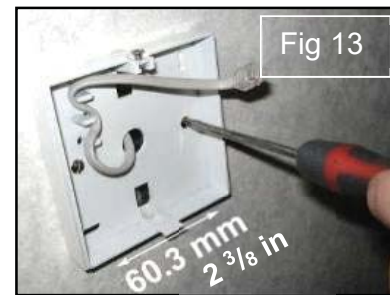

Fig 13
Step 2 Feed one end of the RJ control cable through the switch box, feed and secure the RJ control cable through the back case and secure back case to switch box using 2 mounting screws (field supplied) (see Fig 13).